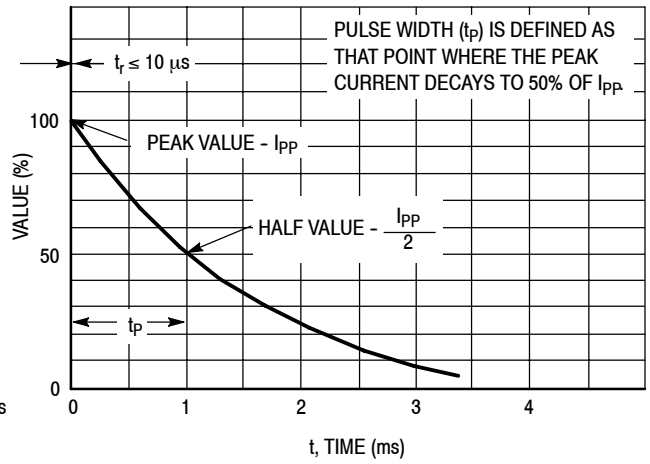

Figure 2. Pulse Waveform
3. Surge current waveform per Figure 2 and derate per Figure 3 of the General Data - 600 Watt at the beginning of this group.